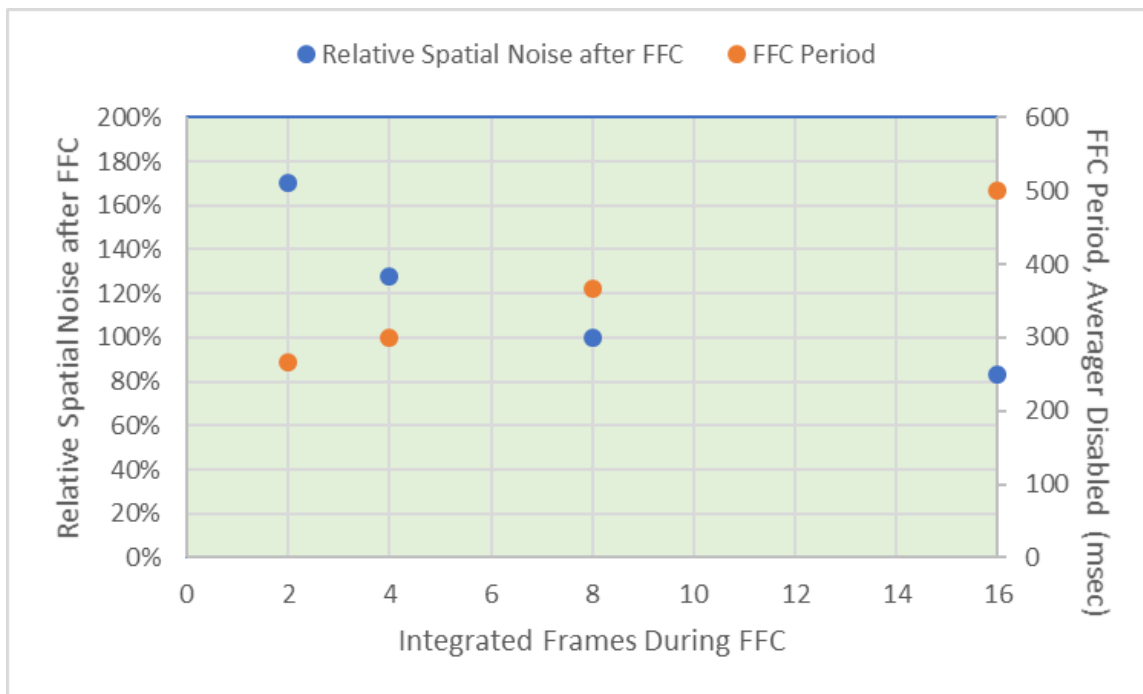

FIGURE 24: RELATIVE SPATIAL NOISE AFTER FFC VS. NUMBER OF INTEGRATED FRAMES (FACTORY DEFAULT = 8)
- **FFC Integration Period:** During each FFC event, the camera automatically integrates n frames of sensor data to generate the resulting correction term. **FFC Integration Period** specifies the value of n , either 2, 4, 8, or 16. Utilizing fewer frames decreases the FFC period (with diminishing returns due to overhead). Utilizing more frames provides greater reduction of spatial noise (with diminishing returns due to $1/f$ noise). Figure 24 quantifies the benefit. The factory-default value is 8 frames for cameras that include a shutter and 16 frames for shutterless. Note that with averager enabled (i.e., 30Hz output rather than 60Hz output), a value of n frames represents twice as much time as with averager disabled, since frame period is twice as long.